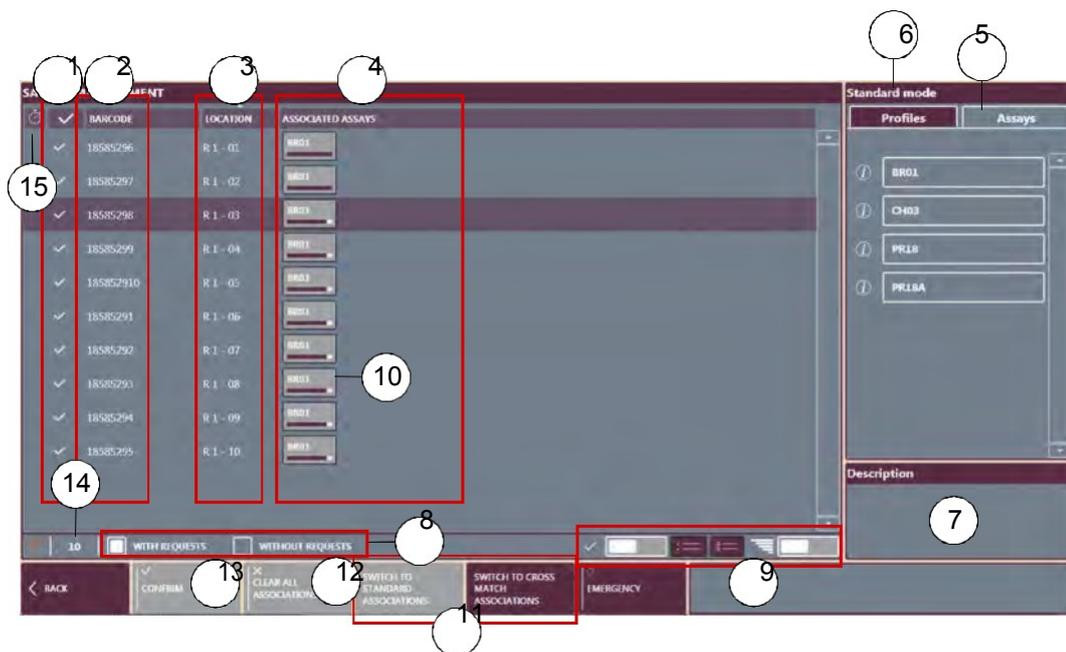

Figure 86. Samples management screen (standard mode)
- A  Select **SWITCH TO CROSS MATCH ASSOCIATION** (from **Standard mode** - Figure 86).